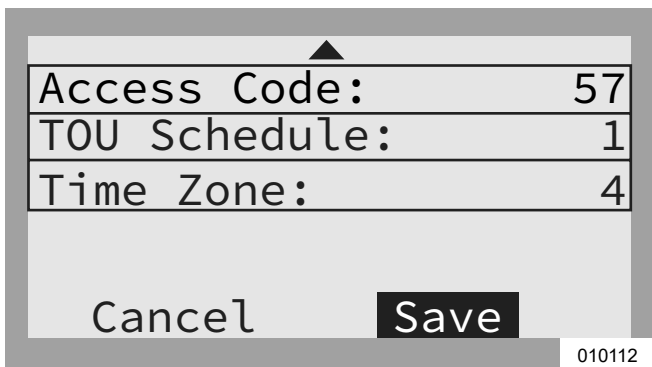

Figure 6-14. Configuring TOU Schedule (4 of 4)
- See **Figure 6-14**. To commit changes to all entries, highlight Commit. Press the center button, then use the arrows and center button to confirm the choice.